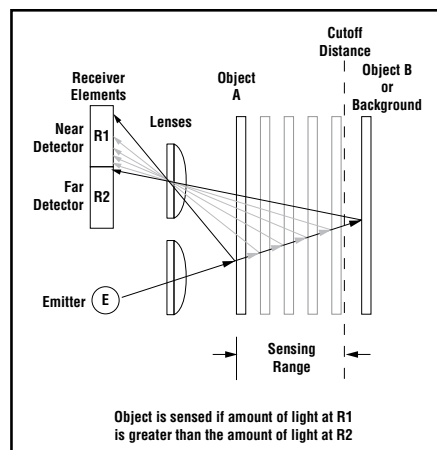

Figure 1. Fixed-field concept
The Q40FF compares the reflections of its emitted light beam (E) from an object back to the sensor's two differently aimed detectors, R1 and R2 (see Figure 1). If the near detector (R1) light signal is stronger than the far detector (R2) light signal (see object A, closer than the cutoff distance), the sensor responds to the object. If the far detector (R2) light signal is stronger than the near detector (R1) light signal (see object B, beyond the cutoff distance), the sensor ignores the object.